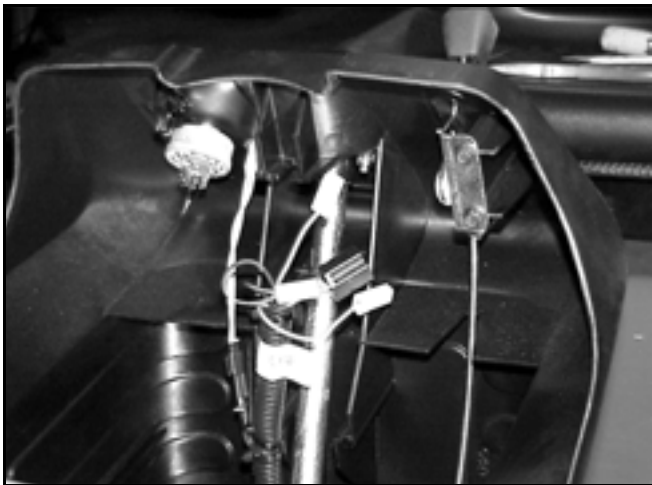

Figure 161 MVC-002a
3. Unplug the ignition switch, PTO safety switch, light switch, and Key Choice™ Reverse Operating System light (Figure 161), if so equipped. Disconnect the throttle cable at the engine. Disconnect the PTO mower cable at the deck engagement lever .